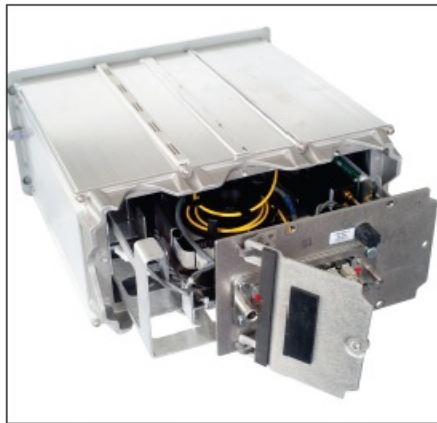

Figure 15. Reinstalling the radio tray assembly.
1. STEP 1. Reinstall the radio tray in the communication module enclosure. (a) Insert the radio tray into the communication module. See Figure 15. (b) Install the five existing 1/4-20 bolts that attach the radio tray assembly using a 3/8-inch nut driver. See Figure 16. (c) Close the battery compartment cover and tighten the cover locking screw.